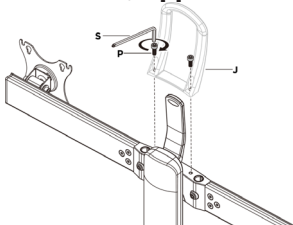

Figure 10
- Using the **M6x15mm Screws (x2)** and the **5mm Hex Key with Screwdriver**, fasten the **Grab Handle, Upper** to the **Crossbar Mount, Upper** by carefully driving the **M6x15mm Screws** through each of the mounting holes on the **Grab Handle, Upper** and into the mounting holes on the **Crossbar Mount, Upper**. As shown in Figure 10.